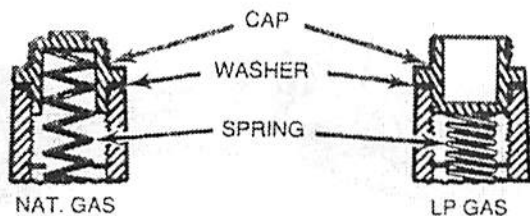

FIGURE 9
1. Remove the cap marked "NAT." (fig. 9) and reverse it to read "LP." Be sure not to disturb or remove the spring beneath the cap. Also make sure the fiber washer is between the cap and the body of the regulator. Insert the cap in the body of the regulator and tighten.